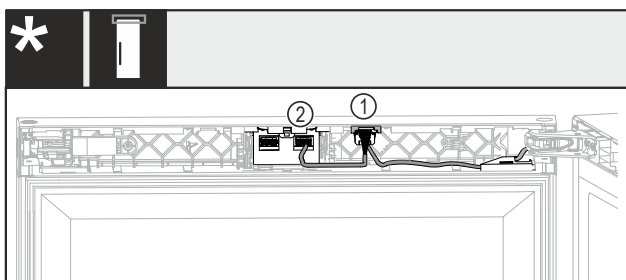

Fig. 39 Without lock or with mechanical lock*
- ▶ Insert the plug with both cables Fig. 39 (1) into the guide.*
- ▶ Snap the plug with one cable Fig. 39 (2) into the right harness.*